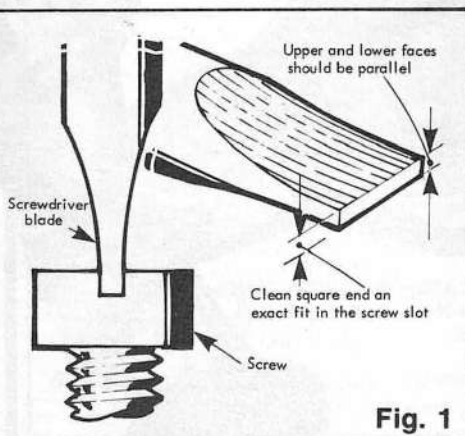

Fig. 1
(1) Proper size, good quality screwdrivers, Allen keys, spanners, etc., to fit all the types of screw and nut on your engine, all in good condition. Ordinary engineers screwdrivers should be correctly ground to fit screws (See Fig. 1). Most screwdrivers these days are made from alloy steel and are not hardened and can therefore be shaped properly with a smooth cut file. Small pliers, tweezers, a good vice and a glow plug spanner.
(2) Suitable cleaning solvents (strong detergent, petrol methylated spirits), a stiff brush and material for blocking all the engine openings during cleaning. Kitchen paper towel is ideal for this purpose.
(3) Several pieces of hardwood dowel, new and in good condition and a clean block of hardwood approximately 50mm square and 25mm thick.
(4) Several clean, solvent resistant containers for holding parts during cleaning and assembly.
(5) Lubricating oil for use during re-assembly, thread locking compound and silicone sealant.
(6) Access to a domestic oven.
(7) A depth micrometer and ordinary micrometer for checking squish band clearance and measuring shims will be necessary if more than a basic replacement job is undertaken.